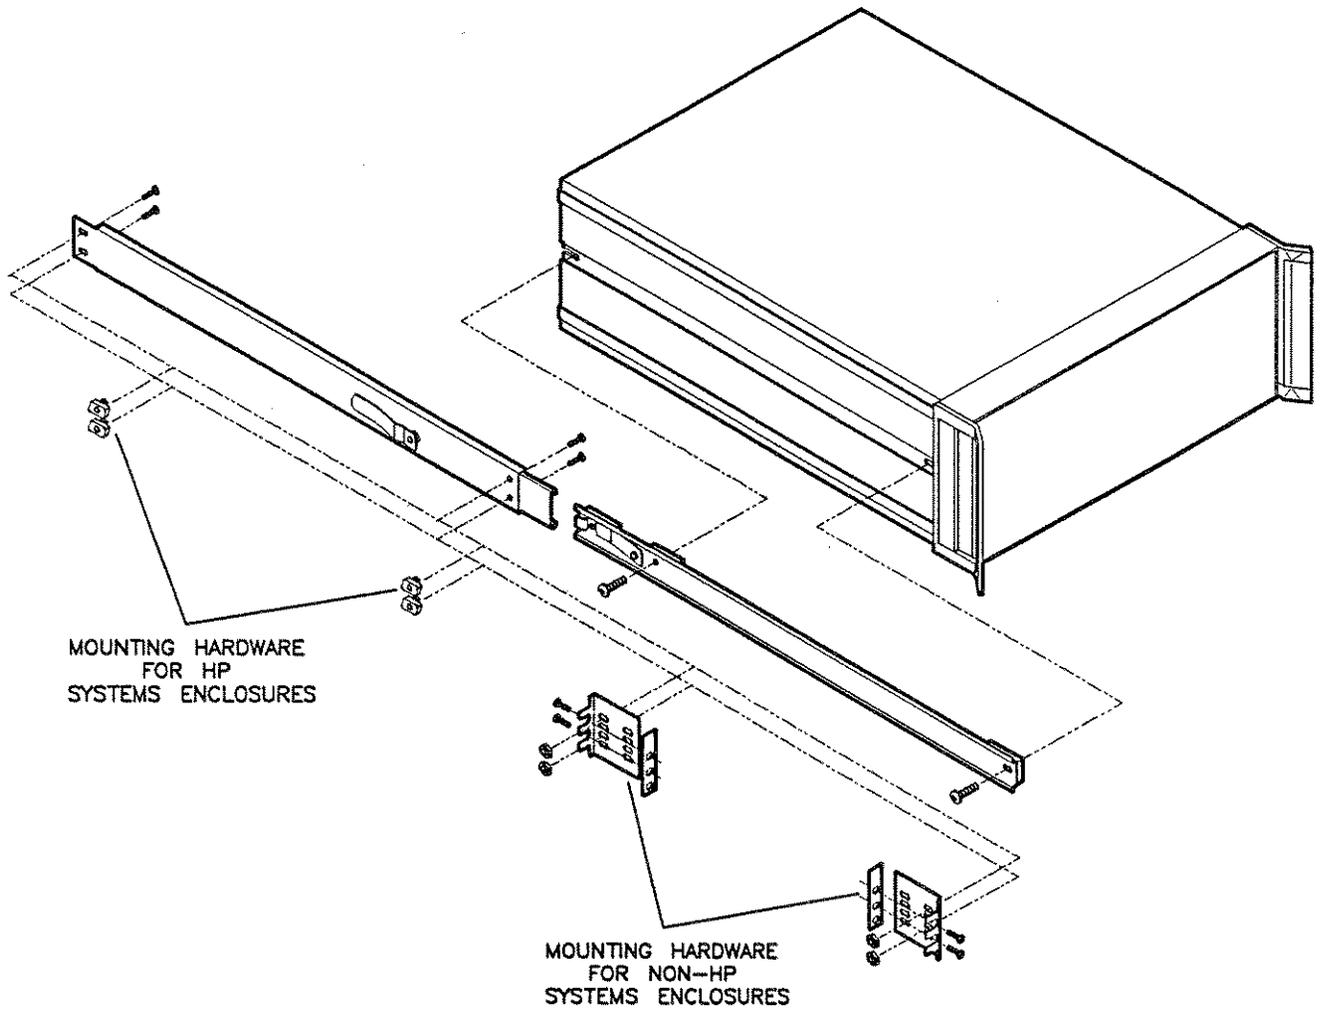

Figure 3-7. Chassis Slide Kit
6. Refer to Figure 3-7. Remove the inner slide assemblies from the outer slide assemblies.